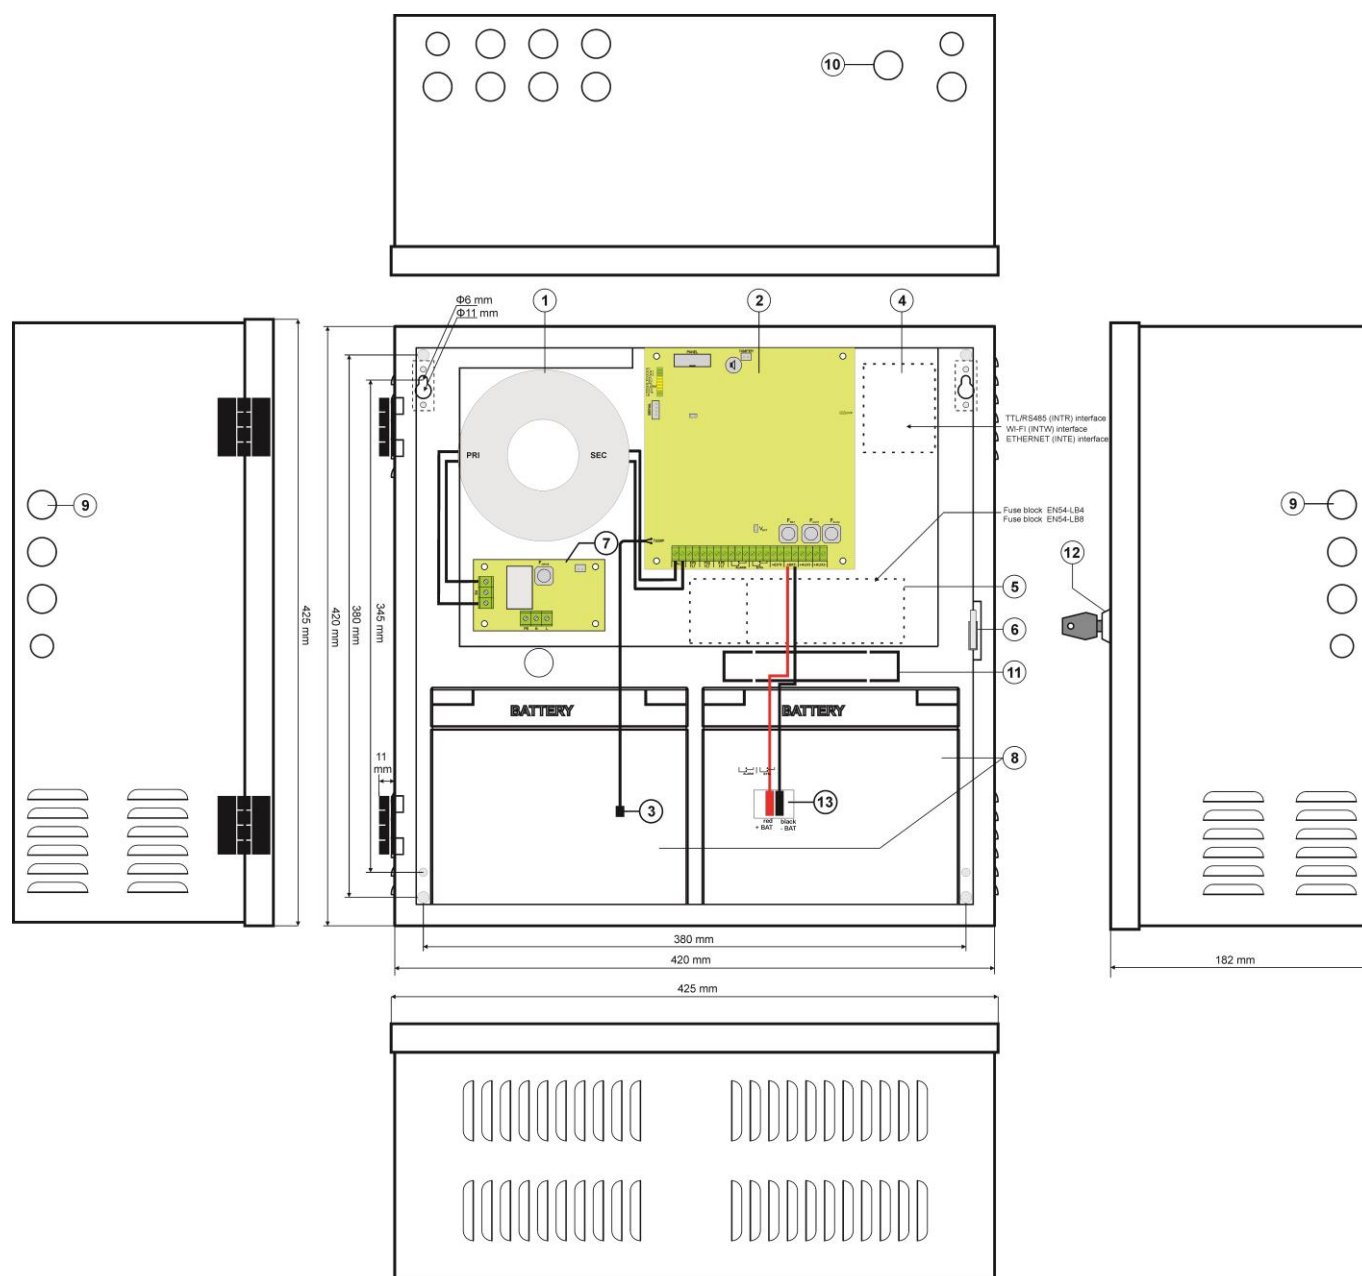

Fig.4. The view of the PSU.
Table 3. Elements of the PSU (see Fig. 4).
5. Install the batteries in a designated area of the enclosure (see Fig. 4). Connect the batteries with the PSU paying special attention to the correct polarity. Batteries must be connected in series using the special cable (included).